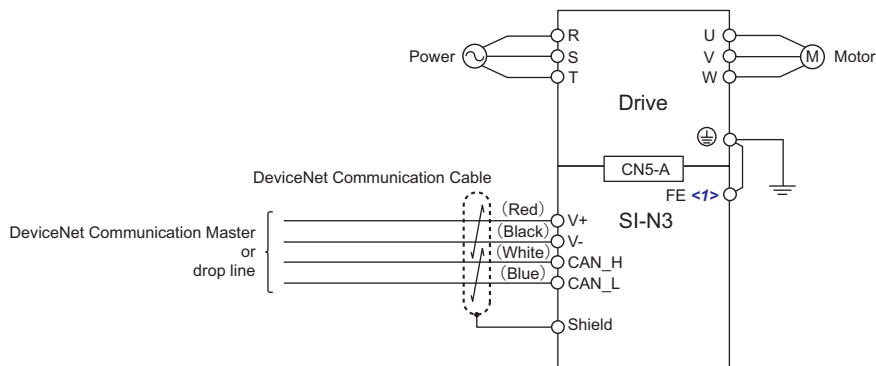

Figure 23 Option Connection Diagram
5. Firmly connect the DeviceNet communication cable to option terminal block (CN1). Install DeviceNet communications cables apart from main-circuit wiring and other electrical and power lines. Ensure the cable end is firmly connected (see Figure 23). Refer to Communication Cable Topology on page 36 for details.
6. Reattach the drive front covers (C, F) and the keypad (D).
Install Ethernet communications cables apart from main-circuit wiring and other electrical and power lines. Ensure the cable end is firmly connected (see Figure 23). Refer to Communication Cable Topology on page 36 for details of installing.
5. Firmly connect the DeviceNet communication cable to option terminal block(CN1). Install DeviceNet communications cables apart from main-circuit wiring and other electrical and power lines. Ensure the cable end is firmly connected (see Figure 23). Refer to Communication Cable Topology on page 36 for details.